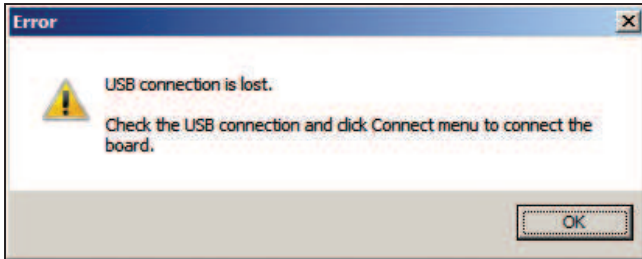

Figure 1. No USB Connection Message
- 5) Connect the USB cable from the PC to the EV kit board; the USB driver is installed automatically. If the USB connection was not found, a popup message appears, as shown in Figure 1. Follow the message to establish connection between the PC and the EV kit board.